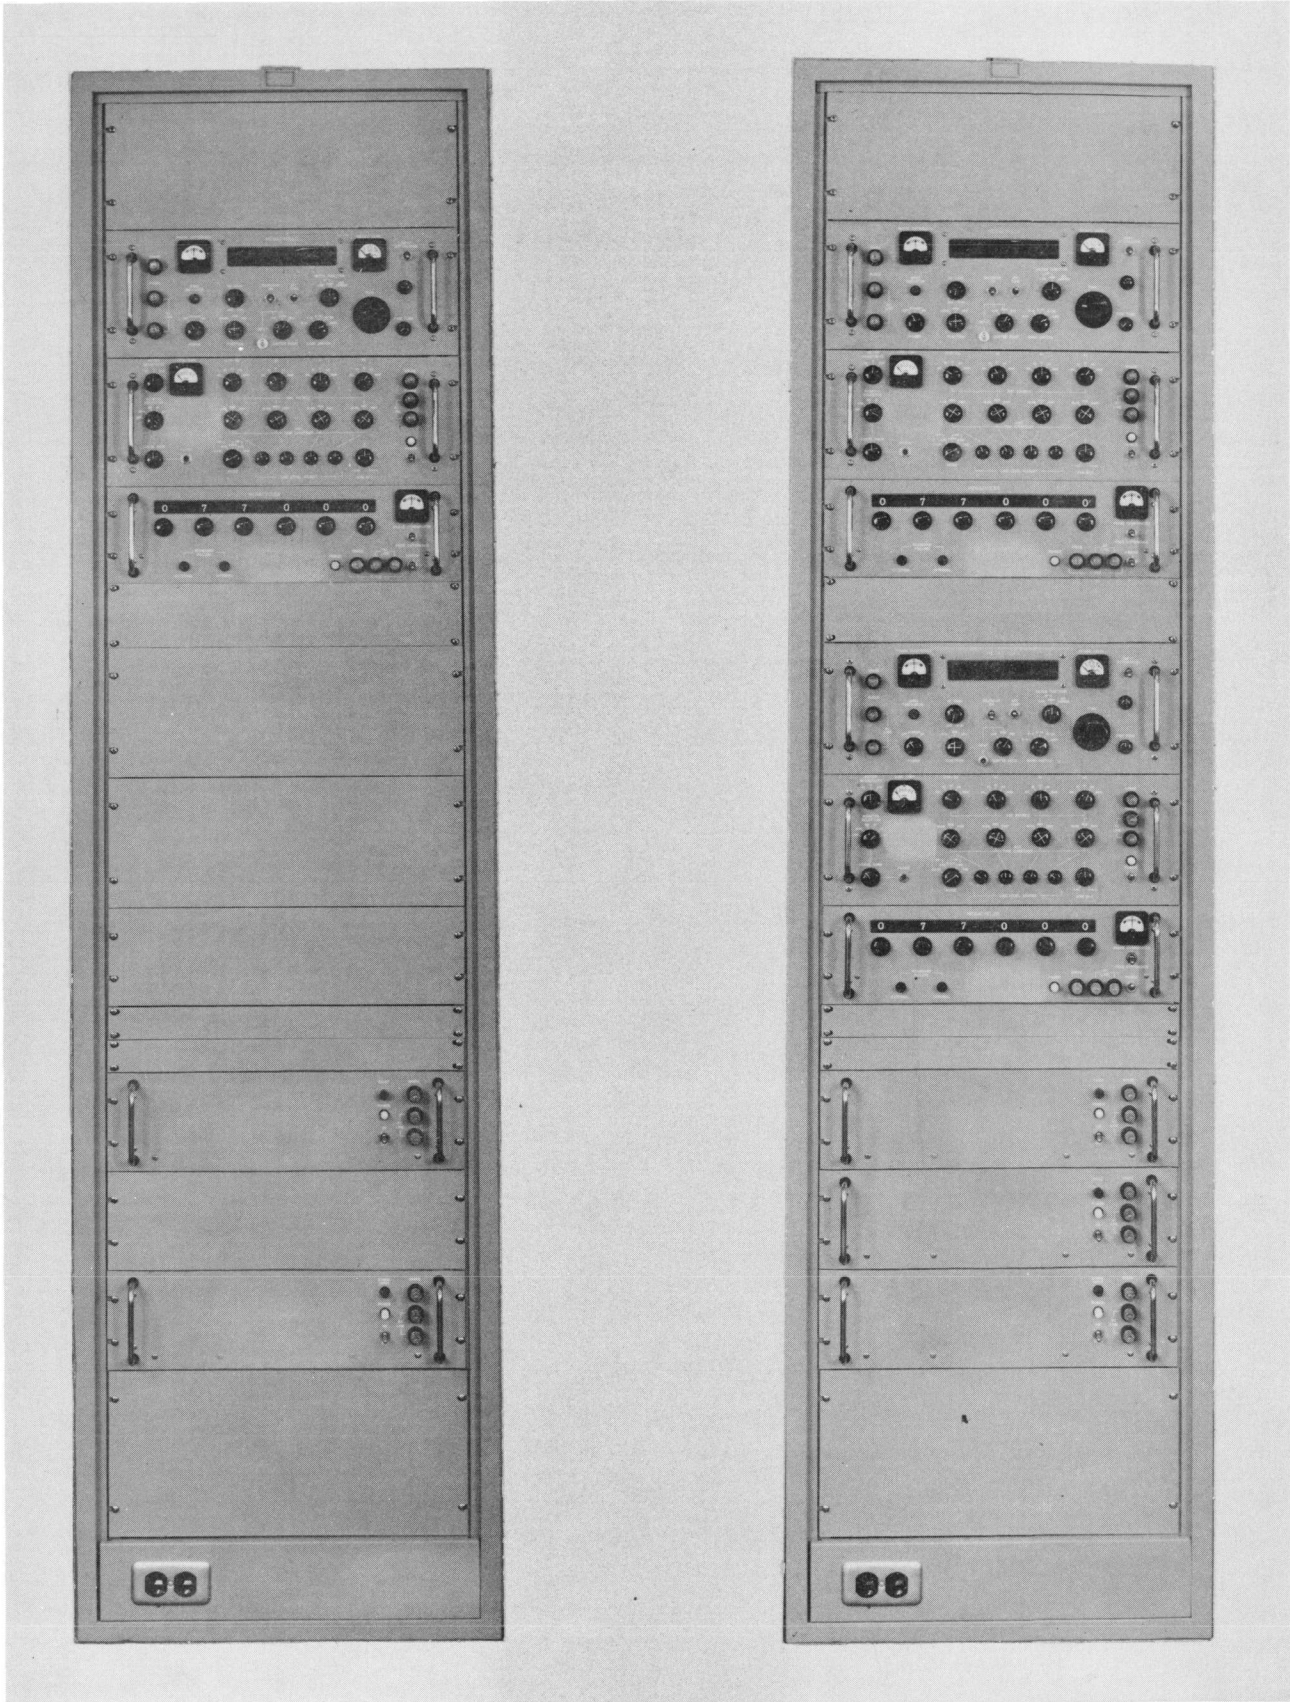

Figure 1-1. Radio Receiving Set
1-2. GENERAL DESCRIPTION (see figures 1-1 and 1-2).
a. GENERAL. - Each Receiving Set comprises modular units and interconnecting cabling, mounted in a single rack as shown in figures 1-1 and 1-2. All unit circuitry is solid state design, with printed circuit plug-in boards throughout. All units are on tilt-lock slides and lock in the up or down position for servicing; each unit contains its own power supply and includes forced air cooling systems, with removable air filters, where required. Unit panels are finished in light gray enamel. Text in paragraphs 1-3b through 1-3g describe individual units and their functions. Block diagrams (figures 1-5 through 1-7) show unit functioning in the various receiver modes.